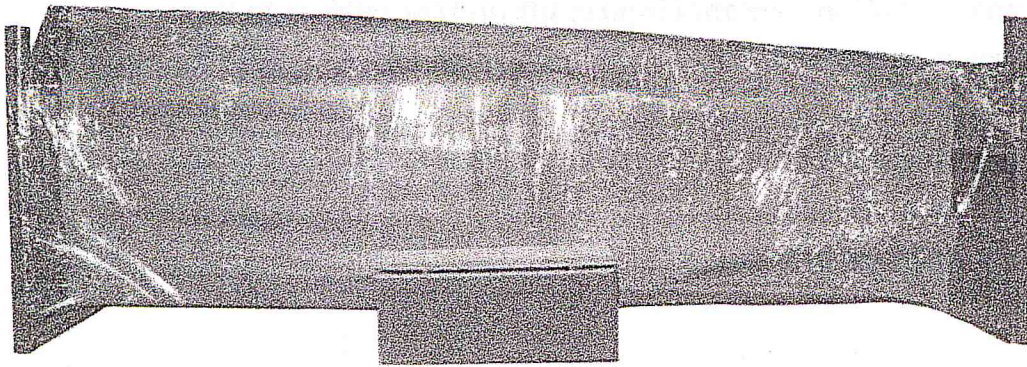

Fig. 6
1. Packaged lift and hydraulic power unit (See Fig. 6).